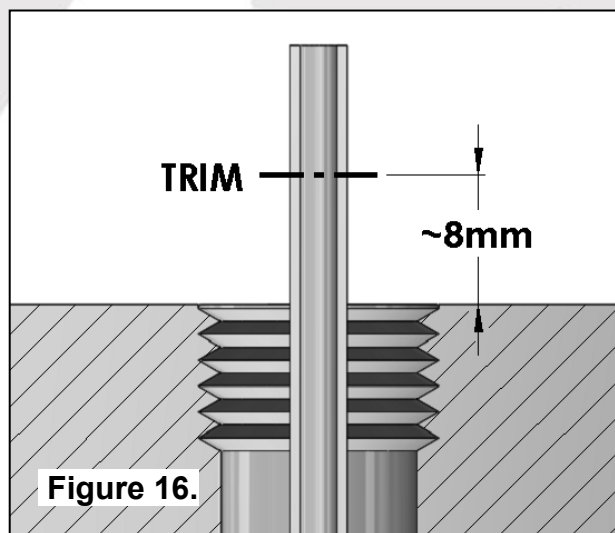

Figure 16.
- Mark a position on the protruding length of tube approximately 8mm [5/16"] from the bulkhead port (Fig. 16.).